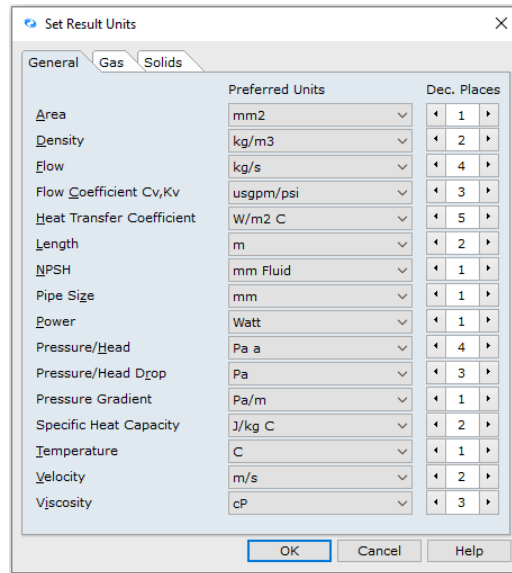

Figure 23: Set Result Units Dialogue Box.
21. Alternatively, you can select F9. This opens a new dialogue box per Figure 23.